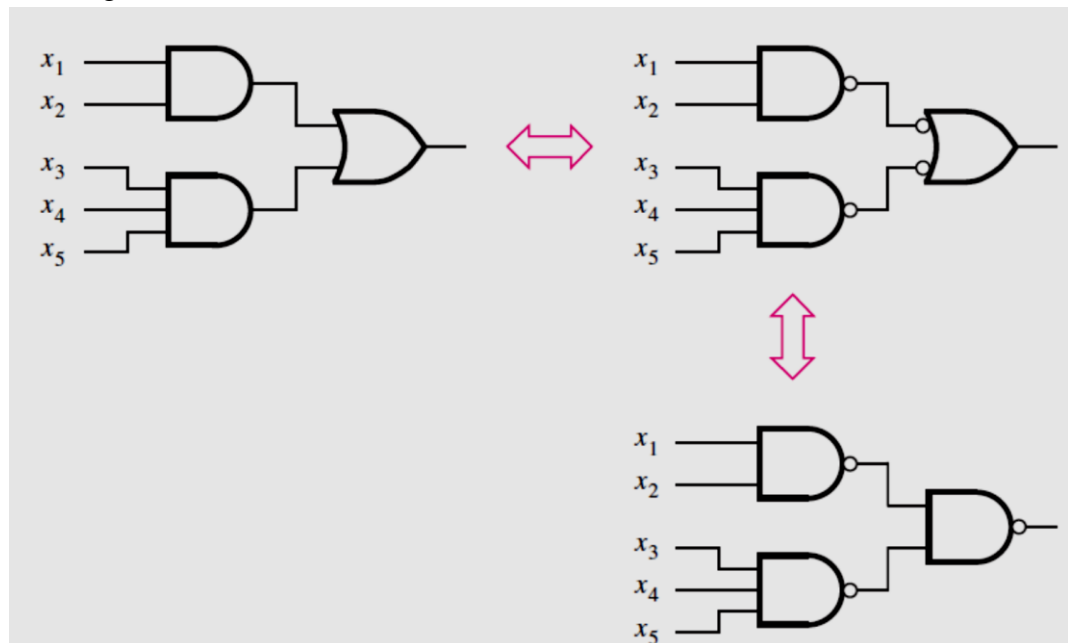

Figure 2.1 Using NAND gates to implement a SOP
- Any AND-OR network can be implemented as a NAND-NAND network having the same topology as shown in Fig. 2.1.